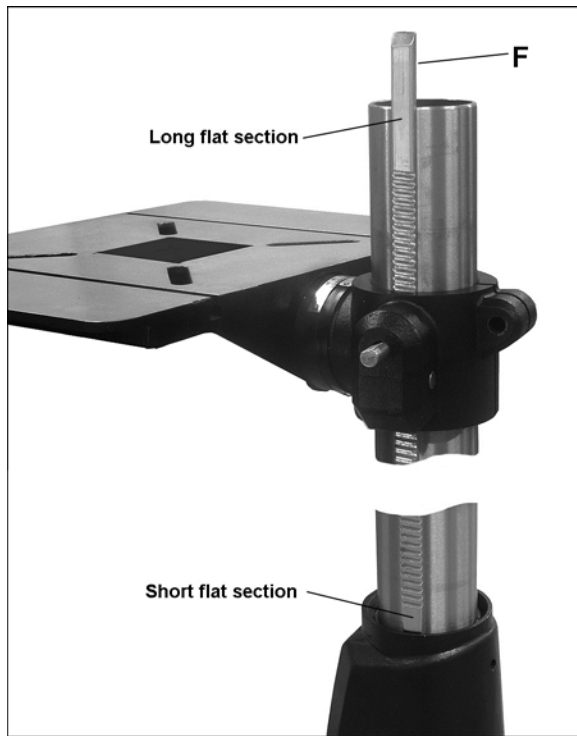

Figure 7
7. Position rack (F, Figure 7) into the slot in table bracket. The longer flat portion of the rack should be at the top, the short flat portion at the bottom. Mesh the rack teeth with the worm gear in the table bracket.
8. With the aid of a second person, hold the rack in the slot, while setting the table bracket over the top of the column. Then slide table bracket and rack together down the column until the lower end of the rack rests in the lip of the holder, as shown in Figure 7.